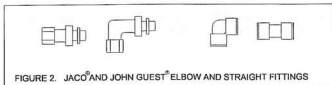
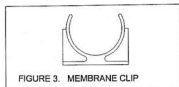

FIGURE 2. JACO® AND JOHN GUEST® ELBOW AND STRAIGHT FITTINGS
FIGURE 3. MEMBRANE CLIP
3. **Mounting of Permeate Pump:** Two methods are commonly used. If you ordered Part Number 25-021 Permeate Mounting Clip Kit, (includes clip and 2 #10 x 3/4" self tapping screws) mount the clip on the system's bracket or other suitable location using the two screws provided. Also available, upon factory request, is a retrofit kit consisting of a membrane housing clip with nut and screw (Figure 3). Drill a #10 hole in the center of the base of the Permeate Pump Mounting Clip and join the two clips (Permeate Pump and membrane housing) at their bases using the screw and nut provided. The Permeate Pump mounts onto the R.O. membrane housing using the clip assembly.
- Fittings:** John Guest® quick disconnect ports - Optional John Guest® elbow fittings (Figure 2)
- Mounting:** Always mount with outlet ports up. Mounting clip (ABS) with (2) #10 S.S. screws available
- Retrofit Mounting:** Order membrane clip if required (Figure 3). Base of Membrane clip attaches to base of Permeate Pump clip with supplied fastener. Permeate Pump can then be mounted to membrane with clip assembly as shown in Figures 5 & 6.